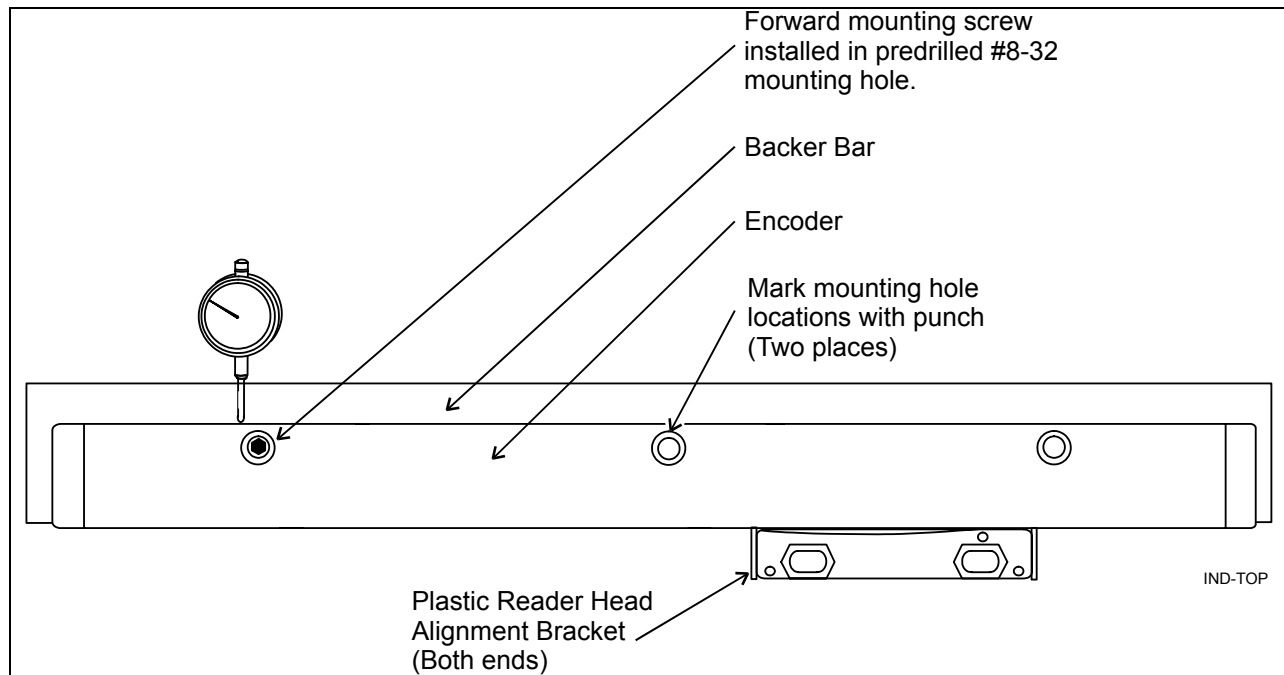

Figure 4, Aligning the Encoder to the Top of the Backer Bar.
1. Refer to **Figure 4, Aligning the Encoder to the Top of the Backer Bar**. Before installing the encoder, remove both end caps and visually check the alignment of the reader head. Verify that the reader head is centered within the housing and is not twisted in any way. Do not reinstall the end caps at this time.